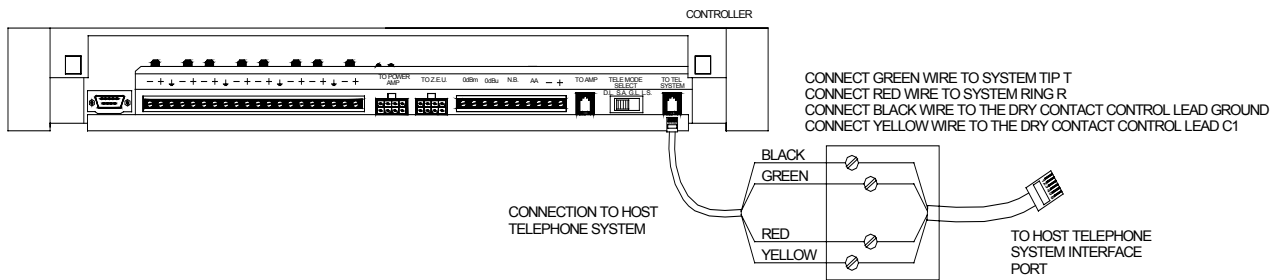

Figure 11. Connecting Host Telephone System to Controller
6. Connect cable from host telephone system to Controller Page Input. See Figure 11.